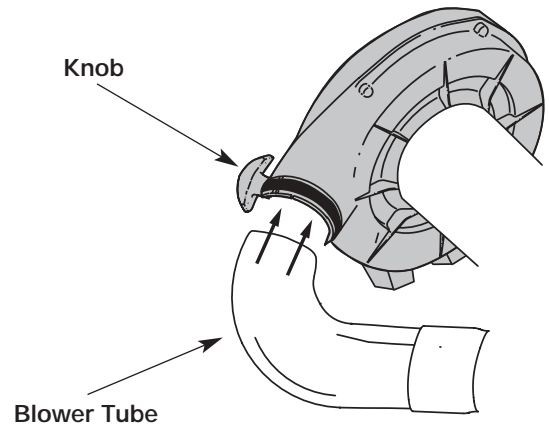

Fig. 4
3. Install the blower tube and tighten the knob (Fig. 4).